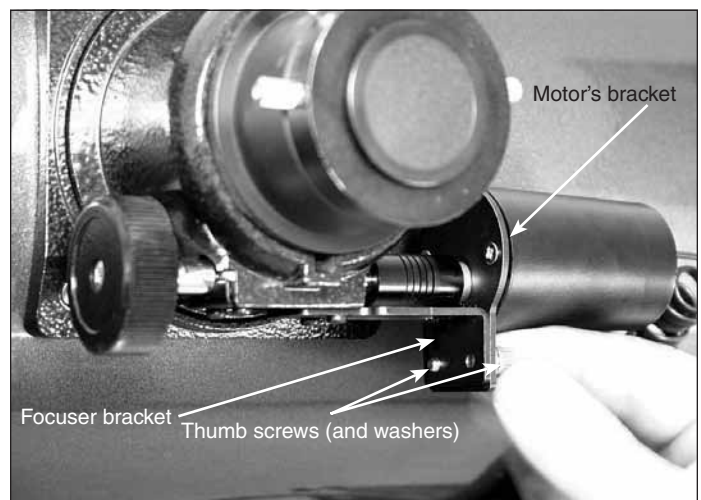

Figure 10. Connect the motor's bracket to the focuser bracket with the two thumb screws (and washers). The brackets should be flush against each other.
7. Slide the focuser bracket forward and back in its slots until the two holes in the bracket's end are flush against the two holes in the motor's bracket (refer to Figure 10). You may need to rotate the motor assembly to have the holes line up.
9. Insert the thumb screws, with washers attached, through the motor's bracket and thread them into the focuser bracket (Figure 10). Tighten the thumb screws firmly with your fingers; you can also use a flat head screwdriver to tighten the thumb screws.